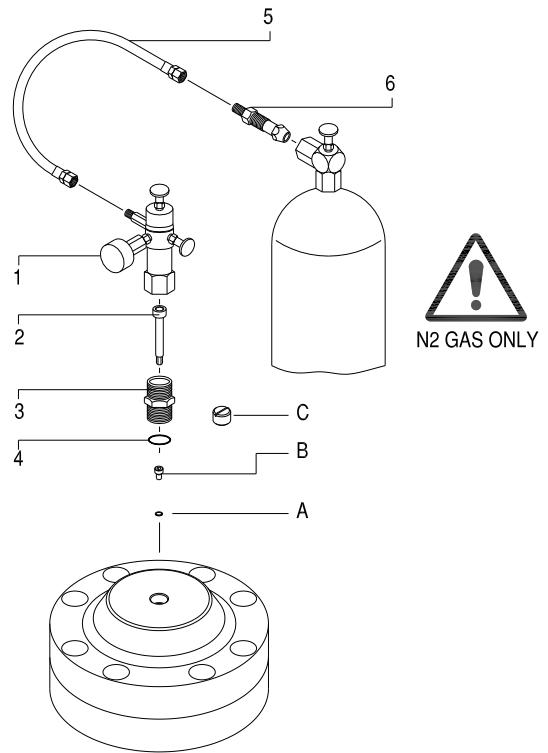

Fig. 12-1 N₂ Gas Charge Tool
The accumulator is a self-contained pressure vessel with a flexible membrane dividing the inner chamber. The lower chamber is used to receive, store and discharge pressurized oil. The upper chamber is filled with nitrogen gas. The correct pre-charge pressure must be maintained for proper functioning and optimum service life. After replacement of membrane, the accumulator must be charged. Filling the upper chamber with nitrogen (N₂) gas is accomplished with the charging tool (Fig. 12-1) and a commercially available nitrogen bottle. Table 12.1 identifies components of the charge kit.
1. Charge Kit 570071 (Fig. 12-1)
12.3 Connect the Charge Valve (Fig. 12-1)